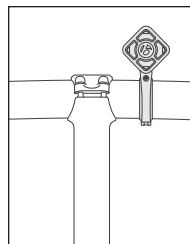

FIGURE 1.3
- In front of handlebar (Figure 1.3)